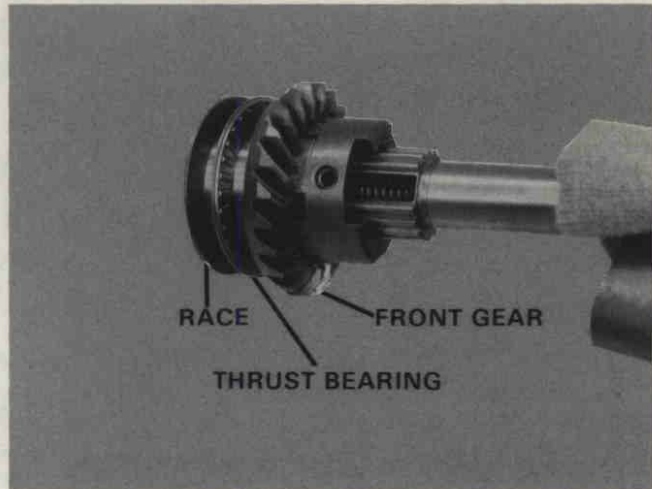

Figure 35. Installing Front Gear, Thrust Bearing, Race.
- A. Install thrust bearing, then race on front bevel gear. Figure 35.